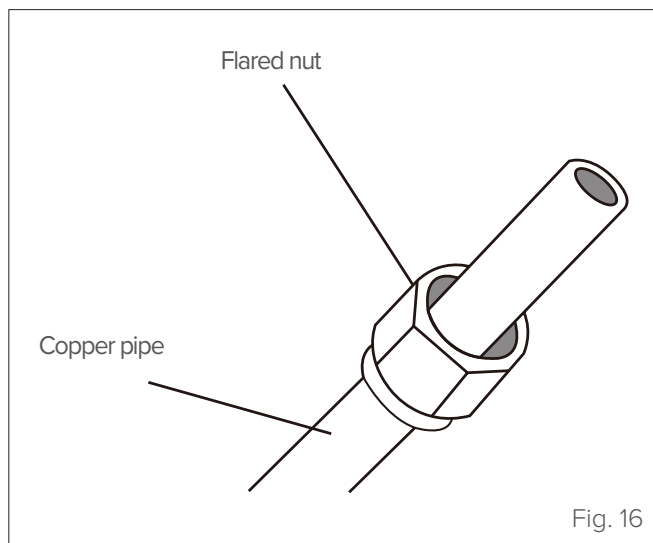

Fig. 16
- 3 Place a countersunk nut at each end of the pipe. Make sure that the nuts are facing in the correct direction, because after countersinking it will no longer be possible to apply them or change their direction (see "Fig. 16").